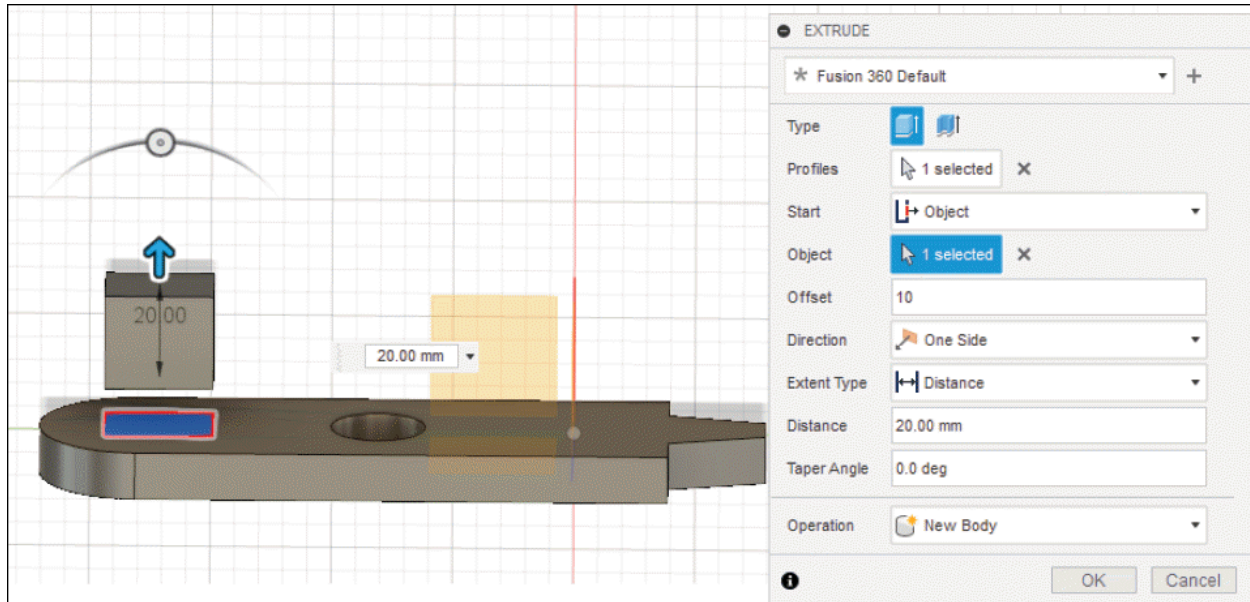

Figure-36. Object tool in EXTRUDE dialog box
- After selecting **Object** tool, click on **Select** button of **Object** section and select the object from where you are going to start the extrude; refer to Figure-36.